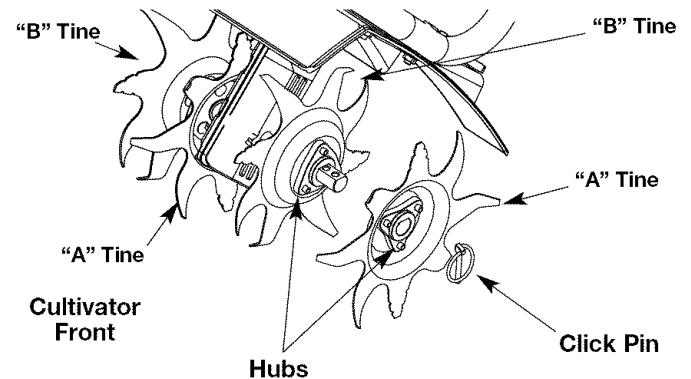

Fig. 11
- Put the On/Off Stop Control in the STOP (O) position and disconnect the spark plug boot from the plug.
- Remove the click pin from each end of the tine shaft. Slide the tines off the shaft (Fig. 11).
- Using Figures 11 and 12 for reference, slide on the new tines with the **hubs facing outward**.